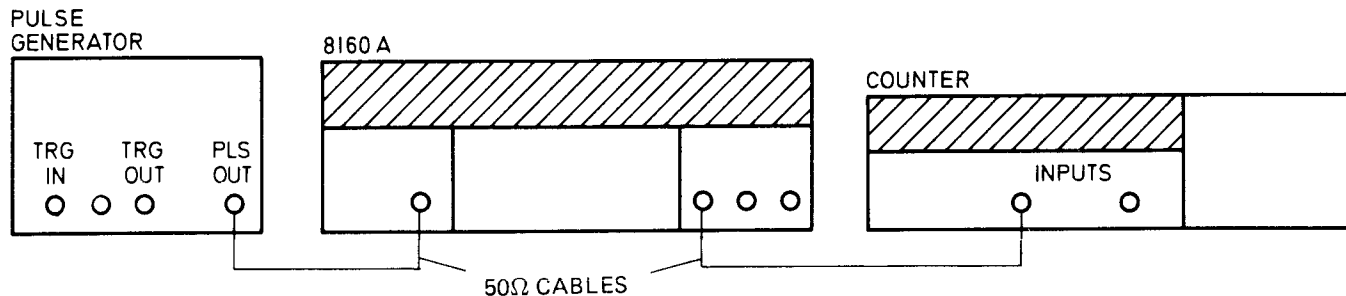

Figure 4-2. Burst, Gate Test Set-up
1. Connect equipment shown in fig. 4-2. Set counter to count single events.